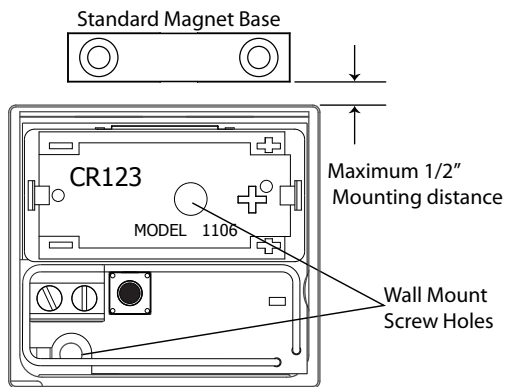

Figure 5: Transmitter and Standard Magnet
3. Place two supplied #4 flat head screws into the mounting hole locations as shown in Figures 5 and 6 to secure the housing to the surface.